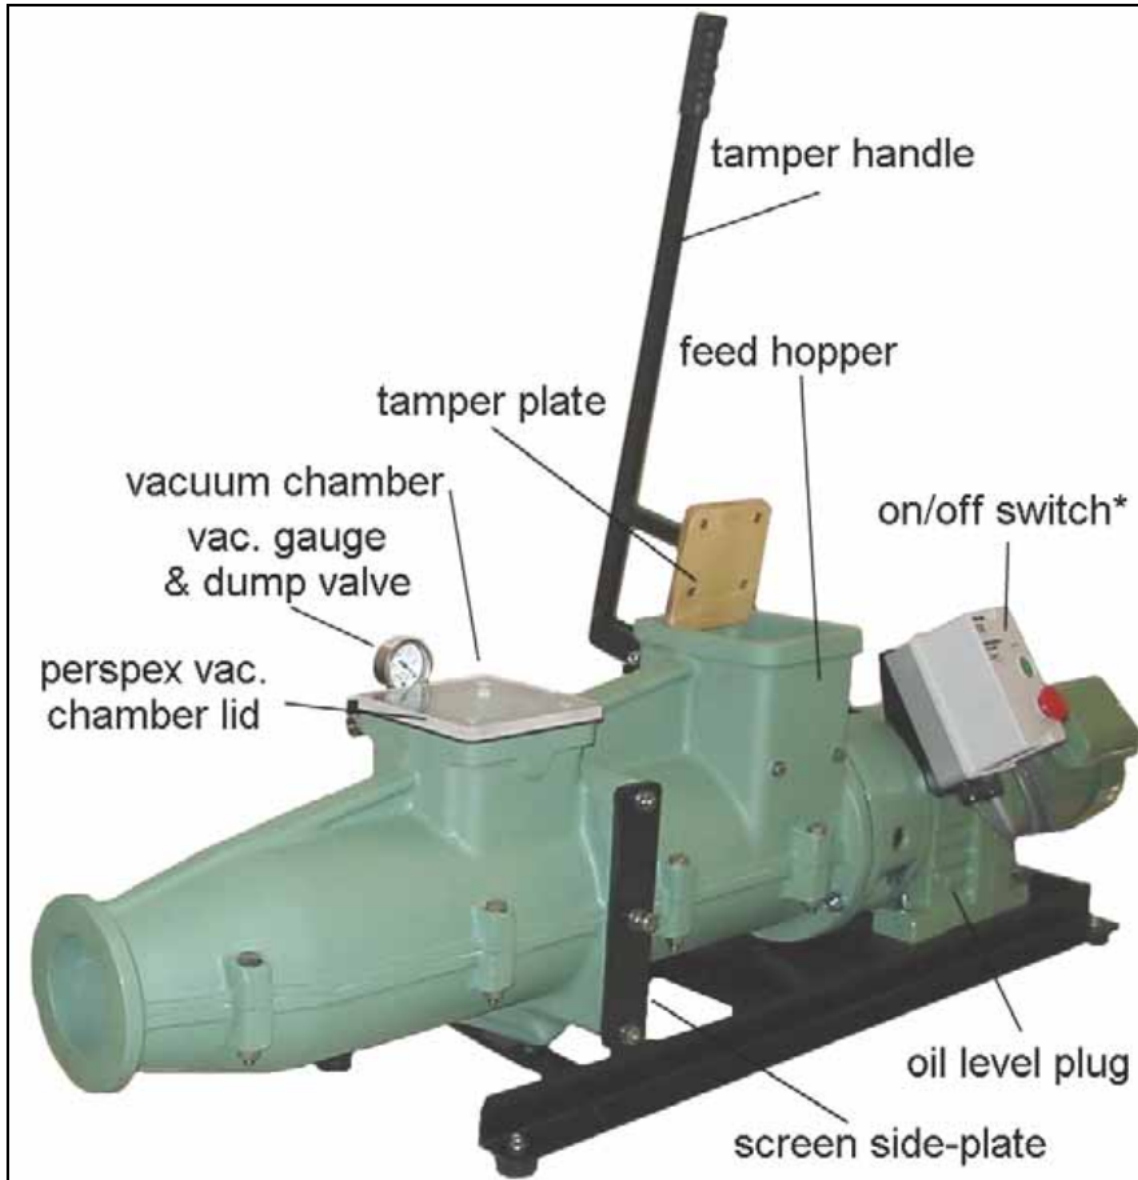

Figure 1: Components of the Venco 75mm pugmill (vacuum pump not shown)
1. Screw the vacuum gauge onto the brass fitting attached to the rear of the pugmill's vacuum chamber. To tighten use a 14mm (9/16") spanner on the square brass section adjacent to the thread -do not over tighten. A layer of Teflon tape (plumber's thread tape) on the thread may make it easier to align the gauge as in Fig. 1.
4. Fit one of the vacuum chamber gaskets onto the posts of clear plastic cover. Place the cover on the vacuum chamber. See Fig 1.
To drain the gearbox, remove the lowest plug adjacent to the gearbox foot. Use a 5mm hex key to remove the gearbox plugs. To fill the gearbox, firstly remove the oil level plug located approx 50mm (2") up the side of the gearbox from the black base. See figure 1. Fill via either of the top two filling plugs until oil starts to run from the open level plug.